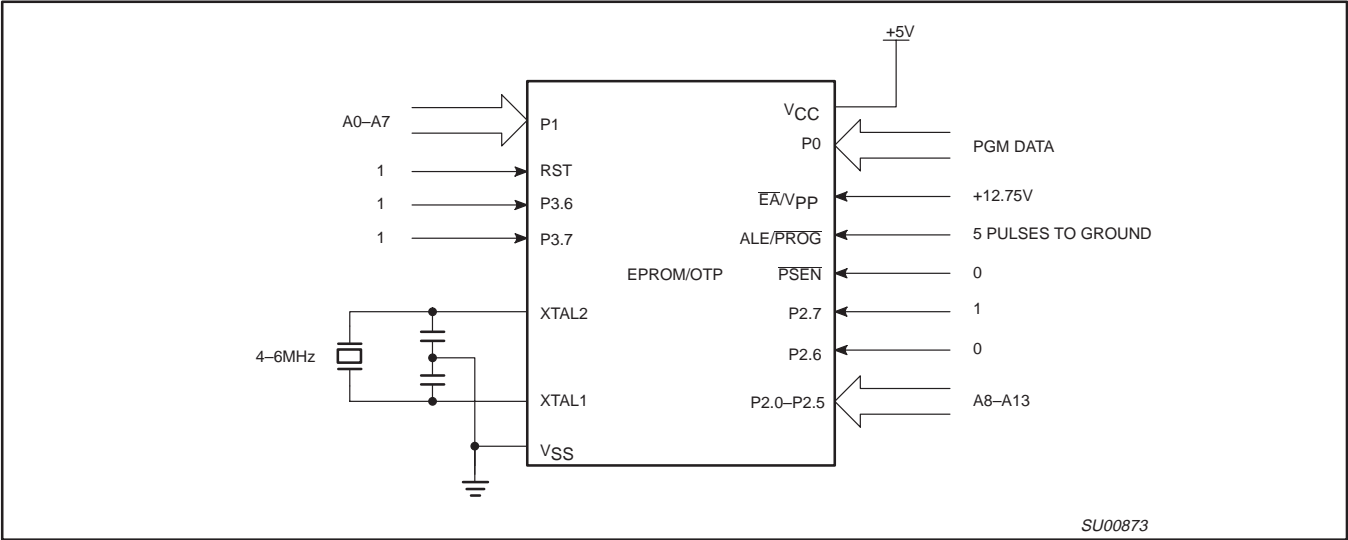
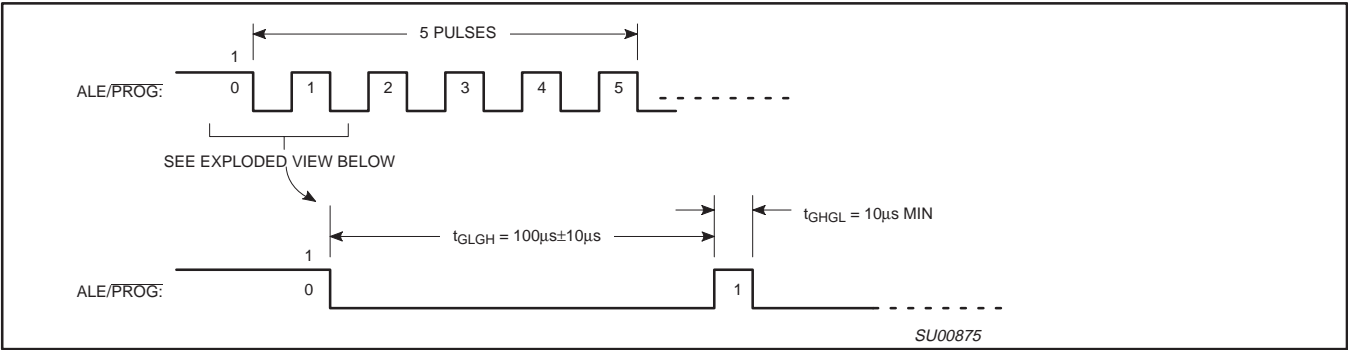
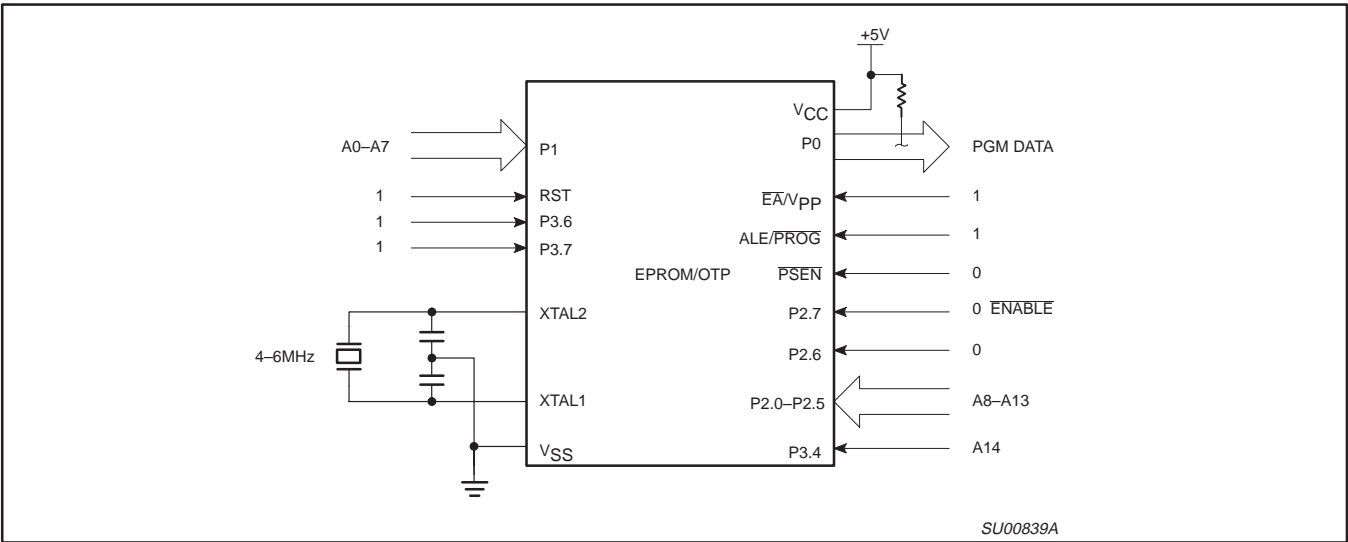

Figure 26. Programming Configuration
Figure 27. PROG Waveform
Figure 28. Program Verification
Table 8 shows the logic levels for reading the signature byte, and for programming the program memory, the encryption table, and the security bits. The circuit configuration and waveforms for quick-pulse programming are shown in Figures 26 and 27. Figure 28 shows the circuit configuration for normal program memory verification.
The setup for microcontroller quick-pulse programming is shown in Figure 26. Note that the device is running with a 4 to 6MHz oscillator. The reason the oscillator needs to be running is that the device is executing internal address and program data transfers.
The address of the EPROM location to be programmed is applied to ports 1 and 2, as shown in Figure 26. The code byte to be programmed into that location is applied to port 0. RST, \overline{PSEN} and pins of ports 2 and 3 specified in Table 8 are held at the 'Program Code Data' levels indicated in Table 8. The ALE/PROG is pulsed low 5 times as shown in Figure 27.
If security bits 2 and 3 have not been programmed, the on-chip program memory can be read out for program verification. The address of the program memory locations to be read is applied to ports 1 and 2 as shown in Figure 28. The other pins are held at the 'Verify Code Data' levels indicated in Table 8. The contents of the address location will be emitted on port 0. External pull-ups are required on port 0 for this operation.
* FOR PROGRAMMING CONFIGURATION SEE FIGURE 26.
FOR VERIFICATION CONDITIONS SEE FIGURE 28.